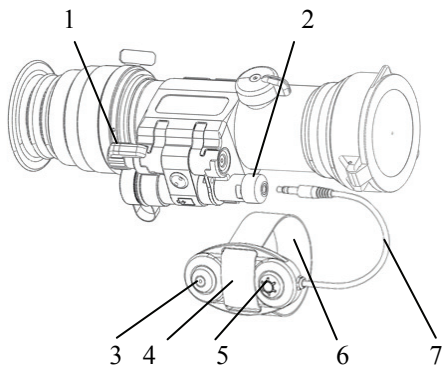

Fig. 7
1. Insert the jack of the remote control into the female connector (2) (Fig.7).
2. Fix the remote control (4) (Fig.7) on the weapon by the fixating band (6) (Fig.7) in the comfortable place on the butt.
3. Press and release the button (3) (Fig.7) to turn the device on.
4. Press and release the button (5) (Fig.7) to turn the IR illuminator (Special order only) on. The power of the IR illuminator corresponds to the position of the switch (1) (Fig.7).
5. Next press and release of the buttons (3) (Fig.7) and (5) (Fig.7) will toggle the controlled functions.